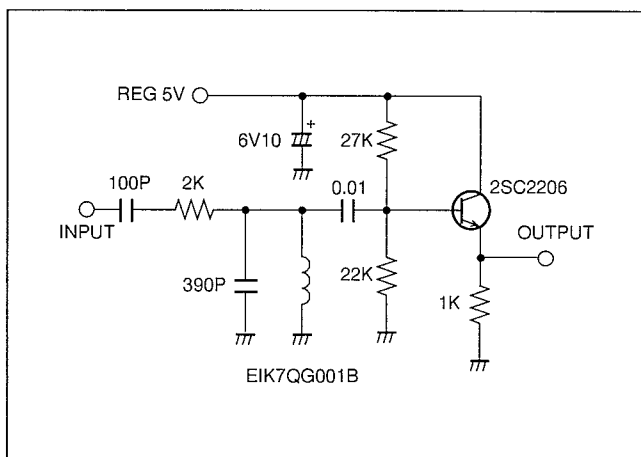

Fig. E31
3. Connect the service circuit to TL8003 as shown in Fig. E31 in order to observe the more clear waveform.